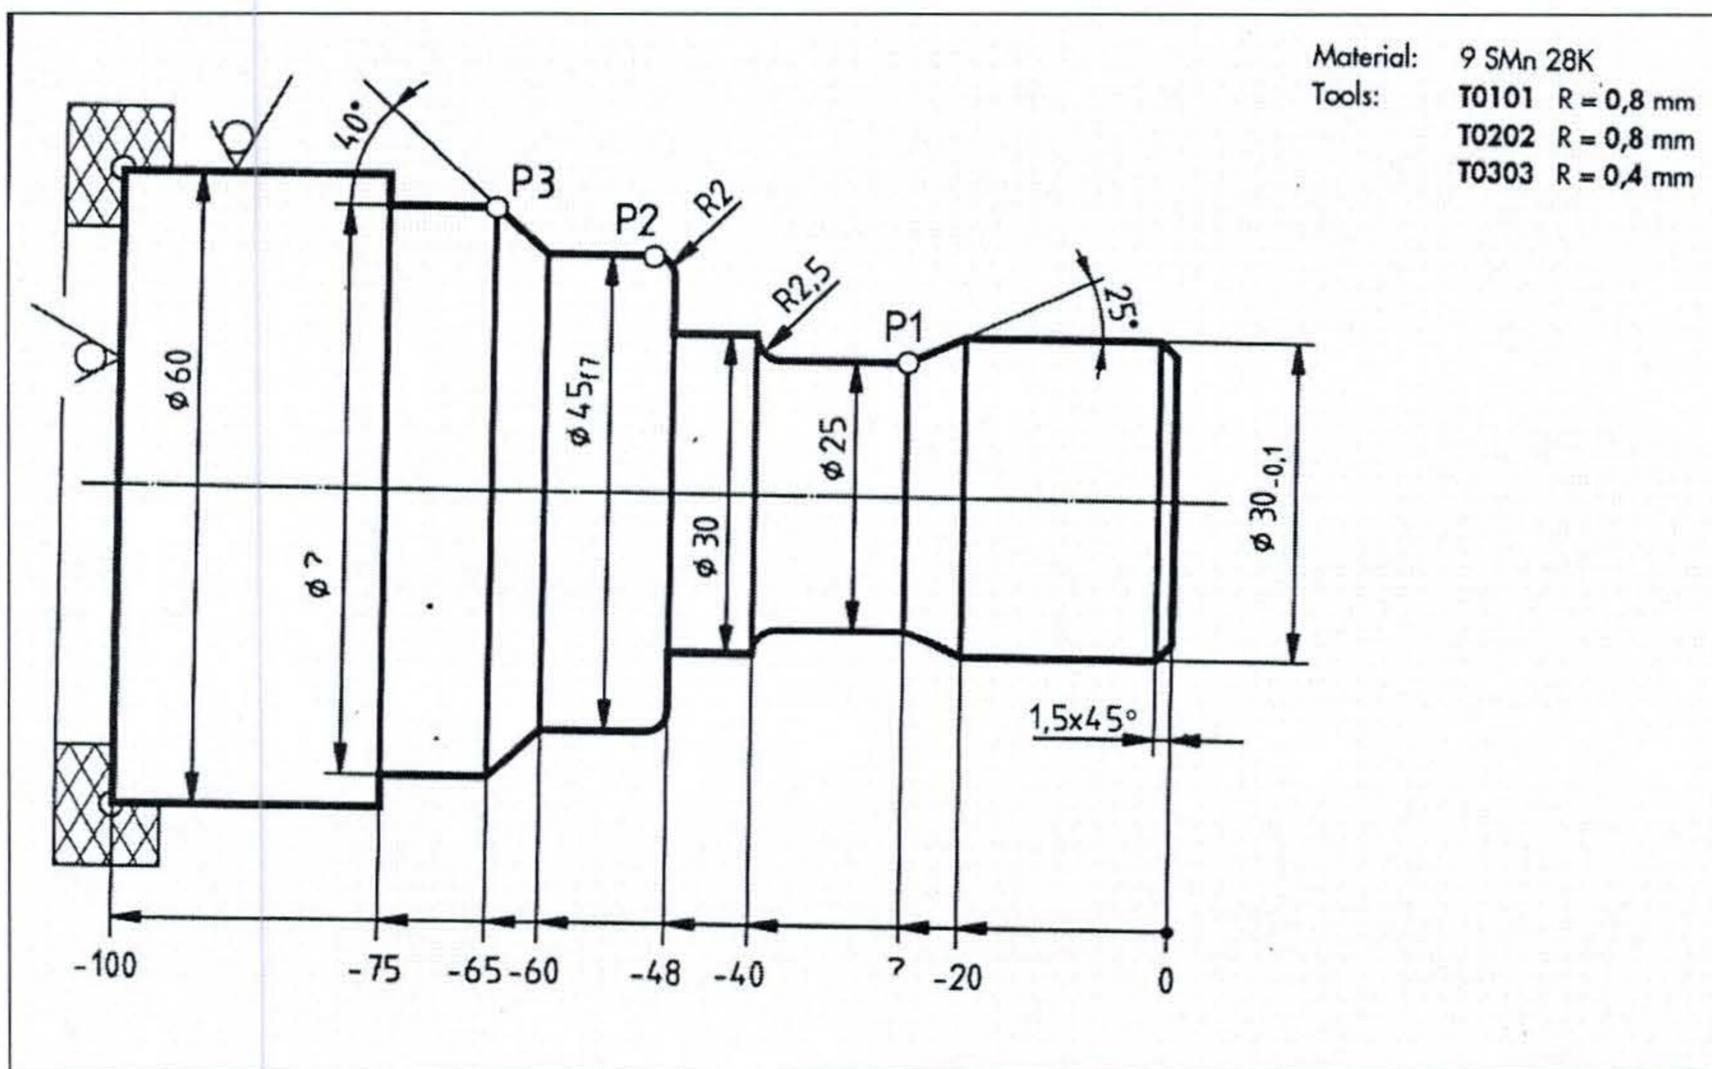

Figure QU5
- b) Write a concise part program to machine the component shown in Figure QU5, given that the Feed rate $F=0.4$ and the spindle speed $S = 560$ rev/min using a tool T0101 and T0202 for roughing to 0.2mm of final dimensions, while Feed rate $F=0.15$ and the spindle speed $S = 780$ rev/min using a tool T0303 for finishing. Assuming that the blank is 100 mm x D60. [15]